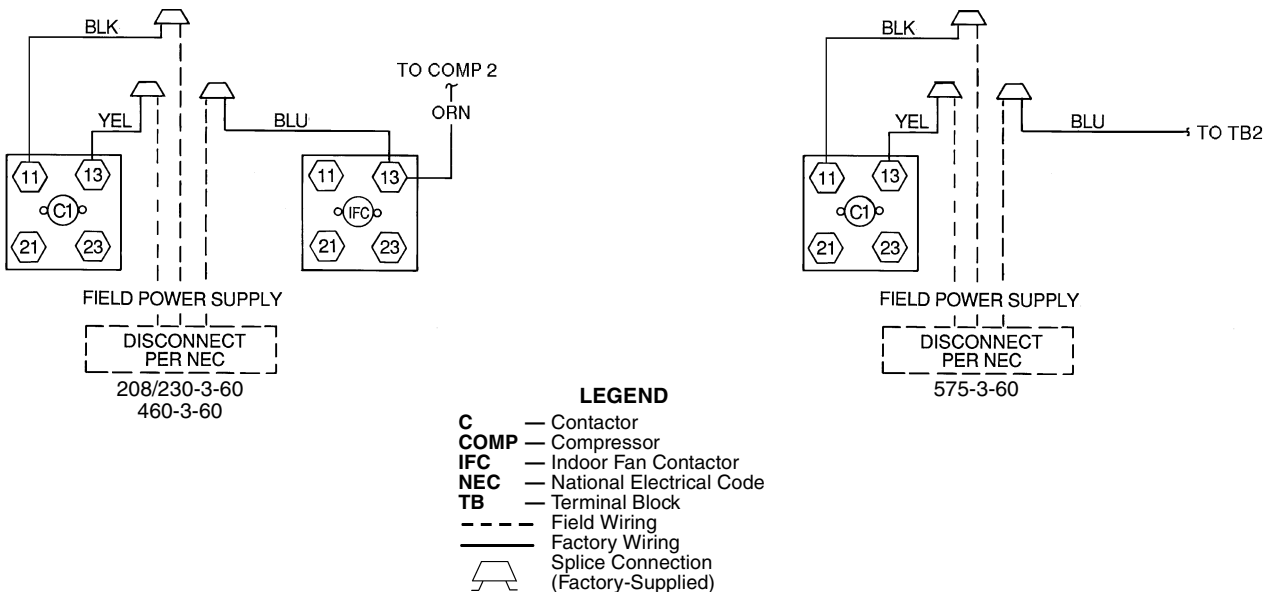

Fig. 7 — Power Wiring Connections
2. Install power lines to terminal connections as shown in Fig. 7.